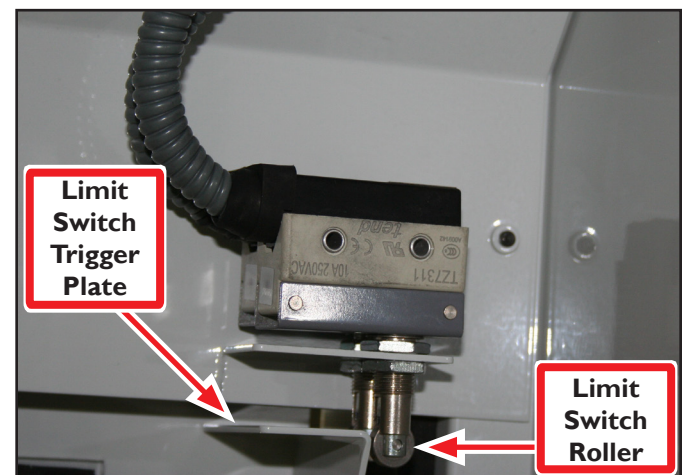

Figure 29
2. Assess the amount of Limit Switch adjustment required by carefully closing door until Limit Switch Rollers come in contact with Limit Switch Trigger Plate (see **Figure 29**).